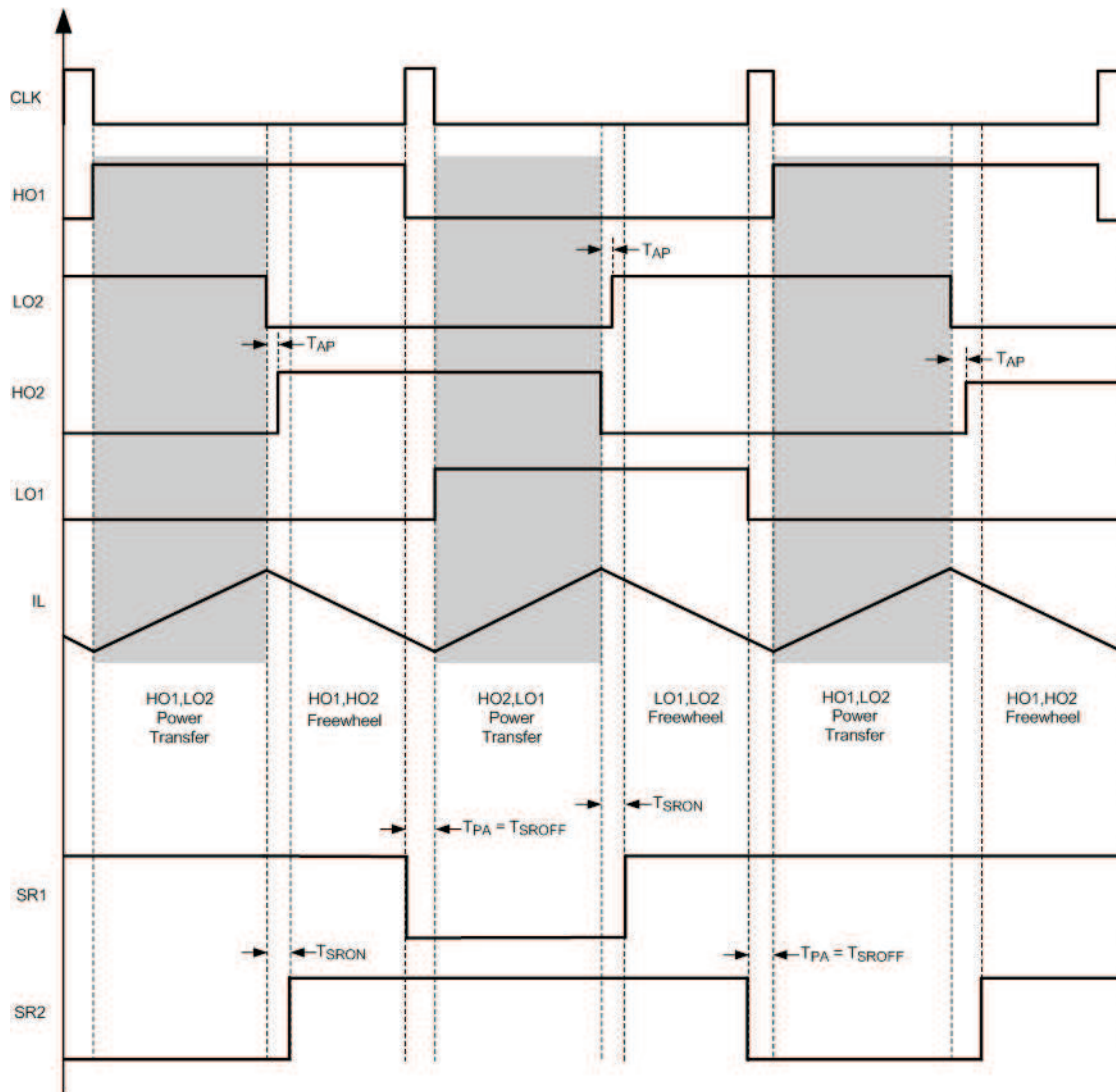

Figure 16. Synchronous Rectifier Timing Diagram
Synchronous rectification (SR) of the transformer secondary provides higher efficiency, especially for low output voltage converters, compared to the diode rectification. The reduction of rectifier forward voltage drop (0.5V - 1.5V) to 10mV - 200mV VDS voltage for a MOSFET significantly reduces rectification losses. In a typical application, the transformer secondary winding is center tapped, with the output power inductor in series with the center tap. The SR MOSFETs provide the ground path for the energized secondary winding and the inductor current. From Figure 16 it can be seen that when the HO1/LO2 diagonal is turned ON, power transfer is enabled from the primary. During this period, the SR1 MOSFET is enabled and the SR2 MOSFET is turned-off. The secondary winding connected to the SR2 MOSFET drain is twice the voltage of the center tap at this time. At the conclusion of the HO1/LO2 pulse, the inductor current continues to flow through the SR2 MOSFET body diode. Since the body diode causes more loss than the SR MOSFET, efficiency can be improved by minimizing the  $T_{SRON}$  period. In the LM5046, the time  $T_{SRON}$  is internally fixed to be 30ns. The 30ns internally fixed dead-time, along with inherent system delays due to galvanic isolation, plus the gate drive ICs, will provide sufficient margin to prevent the shoot-through current.
During the freewheeling period, the inductor current flows in both the SR1 and SR2 MOSFETs, which effectively shorts the transformer secondary. The SR MOSFETs are disabled at the rising edge of the CLK, which also disables HO1 or LO1. As shown in Figure 16, SR1 is disabled at the same instant as HO1 is disabled, and SR2 is disabled at the same instant as LO1 is disabled. The dead-times,  $T_{SROFF}$  and  $T_{PA}$  achieve two different things but are set by single resistor, RD1. Therefore, RD1 value should be selected such that the SR1/SR2 turns-off before the next power transfer cycle is initiated by  $T_{PA}$ .